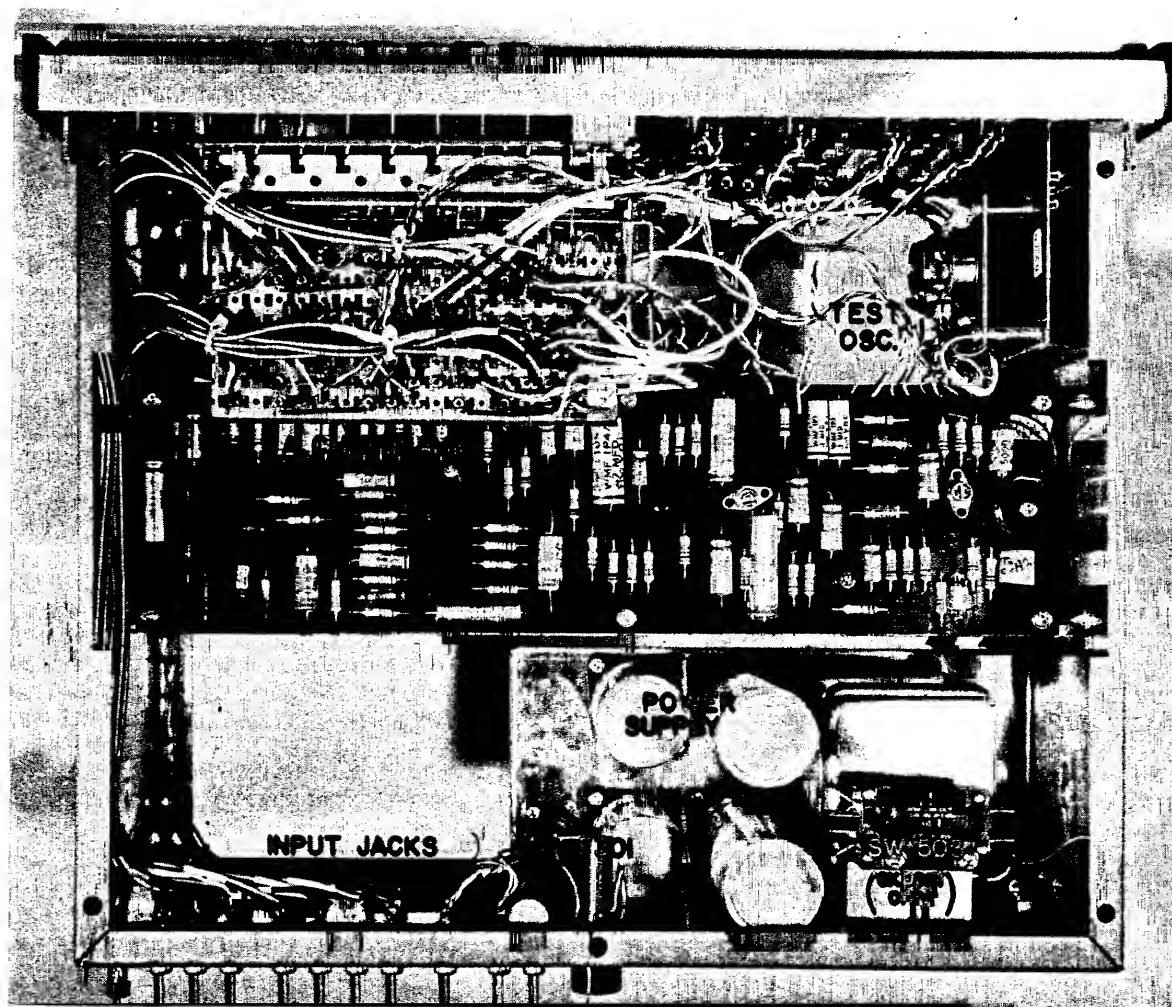

FIGURE 4-1 TOP VIEW
After isolating any malfunctions to either of the amplifier circuit boards, disassemble the unit as explained below. Note that the channel A amplifier is on top (figure 4-1) and may not have to be removed.
Step 2. Repeat for bottom cover. The unit is now accessible for service to the units shown in figure 4-1.